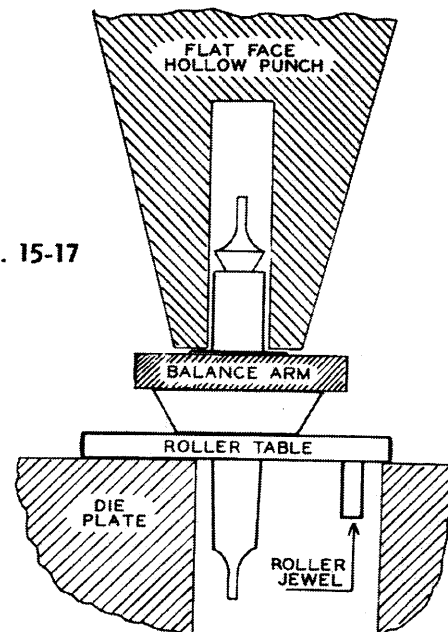

Fig. 15-17
3. Place flat face hollow punch in staking tool and carefully manipulate the staff and roller until they are directly under the punch. When you are certain that neither the staff or roller jewel will be damaged, tap punch with brass hammer until roller is tight against the seat, figure 15-17.